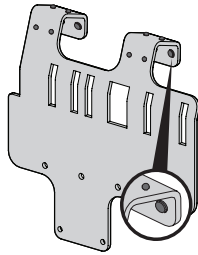

Figure 3
1. Install 12 rubber pads (735-05938) into adapter bracket (789-02518) using the mounting holes shown in Figure 3.